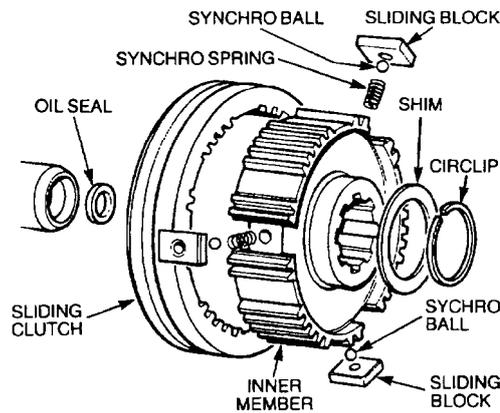

Figure 160 Third and Fourth Gear Synchromesh Exploded View
- dd. Remove the third and fourth gear synchromesh assembly (Figure 160). Discard the circlip and bearing.